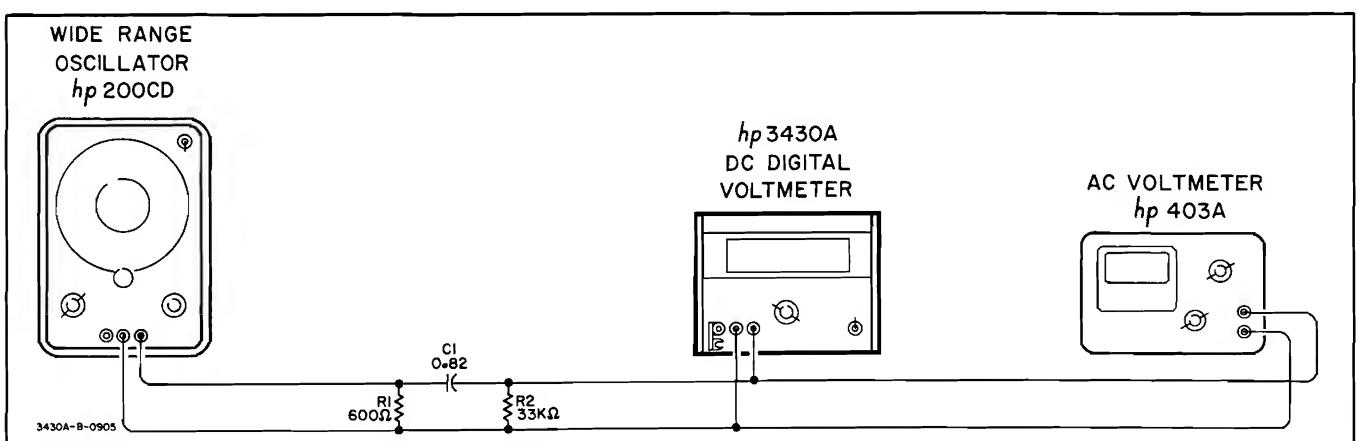

Figure 5-3. AC Superimposed Noise Check
5-11. Figure 5-3 shows the AC Superimposed Noise Rejection Check. R1 is a $600\ \Omega$ load for the test oscillator. C3 blocks any dc from the oscillator output, and R2 provides a low source resistance for the 3430A input circuits.
- Connect the 3430A as shown in Figure 5-3.